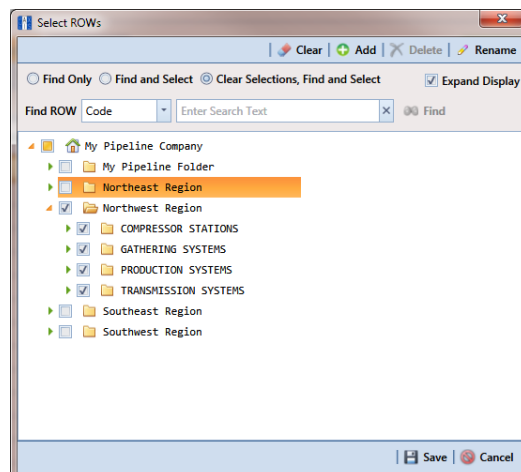

Figure 7-4. Select ROWs
- 1 Click the **Select ROWs** button  to open the *Select ROWs* window (Figure 7-4, page 218).
- 1 Click the **Select ROWs** button  to open the *Select ROWs* window (Figure 7-4, page 218). Select one or more pipeline segments with facilities you want to work with, then click  **Save** to close the window.